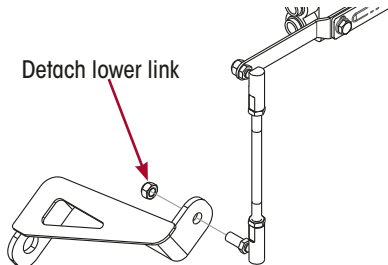

Figure 28: Detach HCV Link to Move Control Arm
- b. If the vehicle is not equipped with a suspension dump system, disconnect the height control valve arm(s) and lower to vent some suspension air pressure. Re-attach the height control valve linkage(s) to the height control valve arm(s). Allow the suspension system to inflate. Refer Figure 28.